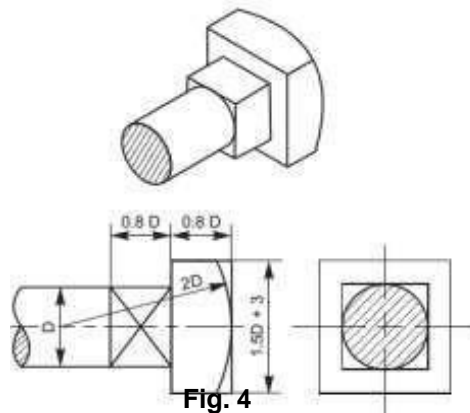

Fig. 4
2. Create a Square headed bolt as shown in Fig.4 in additive manufacturing technique using FreeCAD software. Use $D = 10\text{ mm}$, 15 mm , 20 mm .